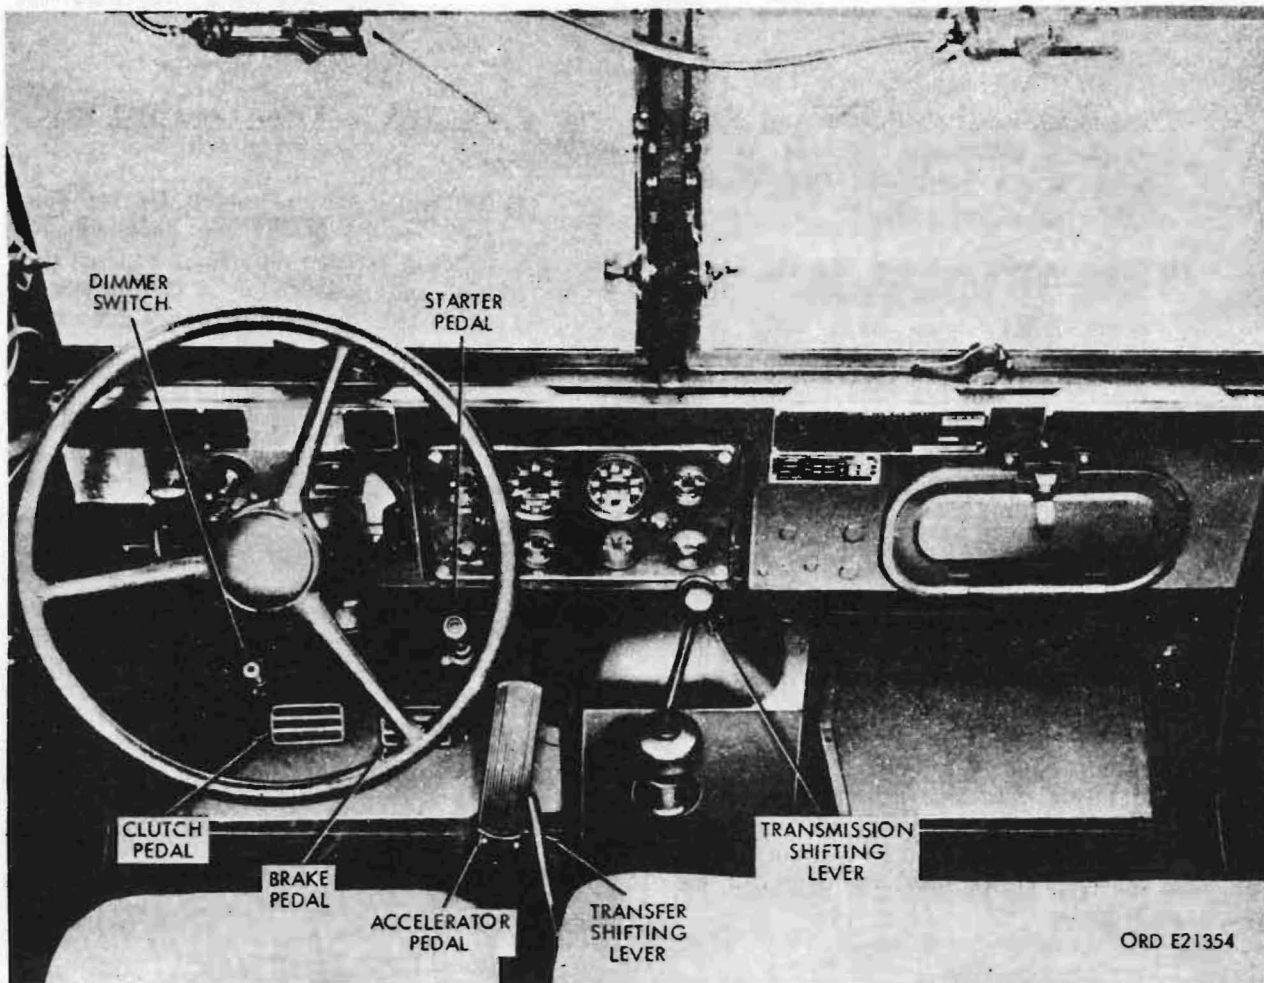

Figure 100. Cab floor controls
- (3) Place the transmission-gearshift lever (fig. 100) and the transmission power take-off shifting lever (fig. 33) in the NEUTRAL positions. Place the transfer-shift lever (fig. 100) in LOW or HIGH operating range, depending on the expected terrain, load and vehicle speed.
- (3) Depress the clutch pedal (fig. 100) to disengage the clutch, and hold the pedal down while the engine is started.
- (4) Step on the starter pedal (fig. 100) to start the engine. Release the starter pedal as soon as the engine starts.
- (5) Depress the clutch pedal (fig. 100) to disengage the clutch, and hold the pedal down while the engine is started.
- (6) Step on the starter pedal (fig. 100) to start the engine. Release the starter pedal as soon as the engine starts. Release the clutch pedal.
- (1) Accomplish steps (1) through (8) above.
- (2) Depress the clutch pedal (fig. 100) to disengage the clutch, and hold the pedal down while the engine is being started.
- (3) Step on the starter pedal (fig. 100) and turn the manifold heater switch to the ON position while the engine is cranking.
e. Depress the clutch pedal (fig. 100), and move the transfer-shift lever to the LOW (down) or HIGH (up) range (fig. 102). The transfer range to be selected depends on the expected terrain, load, and vehicle speed (table 3).